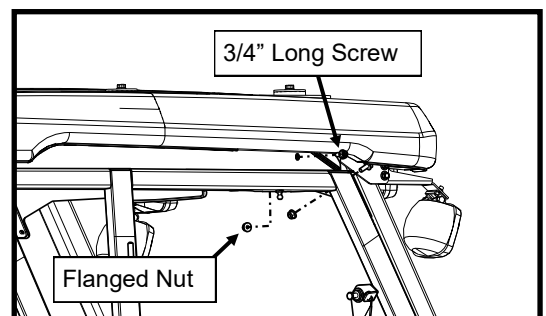

Figure 9.3: Side Frame Bolt
- 9.3 Fasten the corner of the heater duct to sideframe (see Figure 9.3). Leave hardware loose.